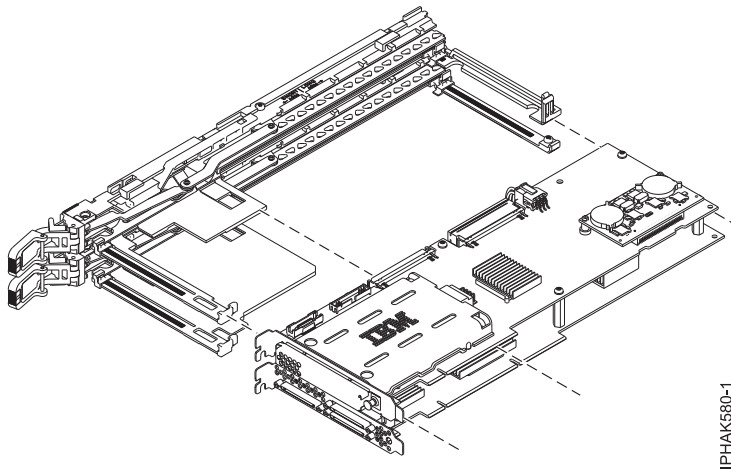

Figure 76. Pulling the double-wide adapter away from the cassette assembly
12. Pull the double-wide adapter away from the cassette assembly and carefully place it on an ESD protective surface. See Figure 76.